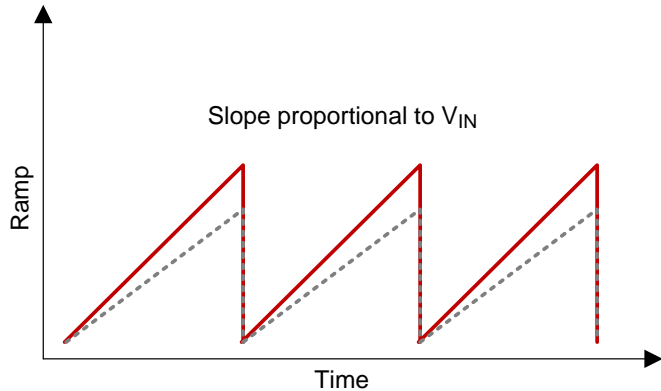

Figure 15. Modulation Ramp Slope
- (1) Slope proportional to input voltage (see Figure 15)